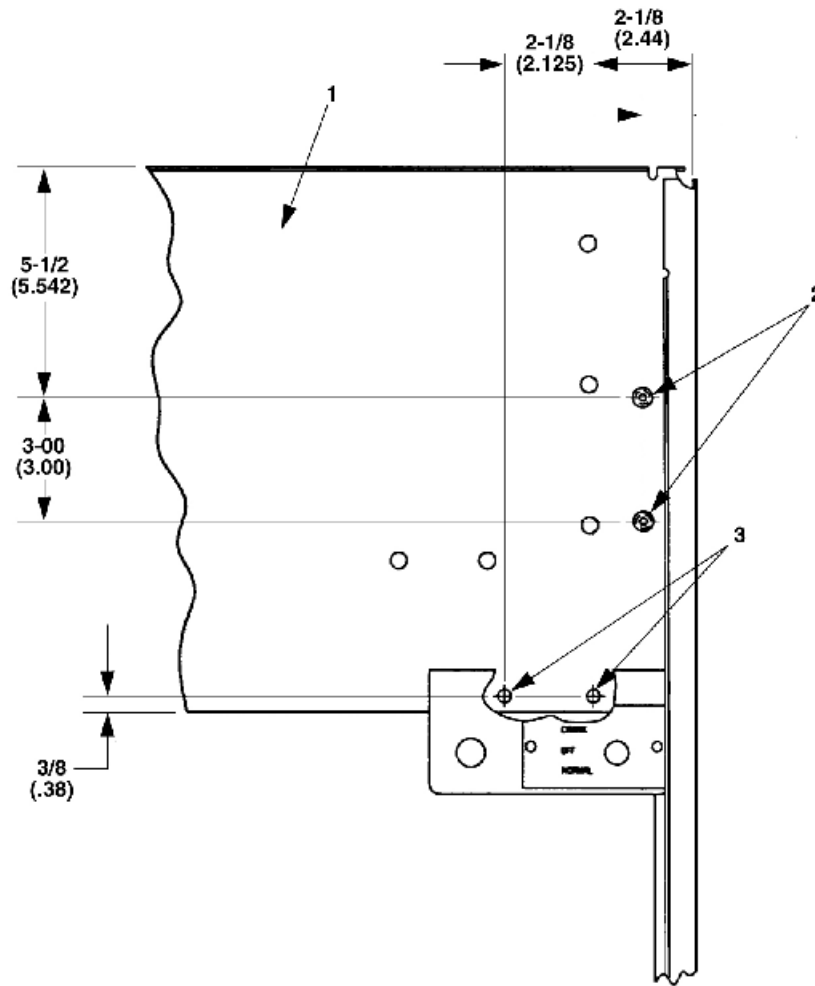
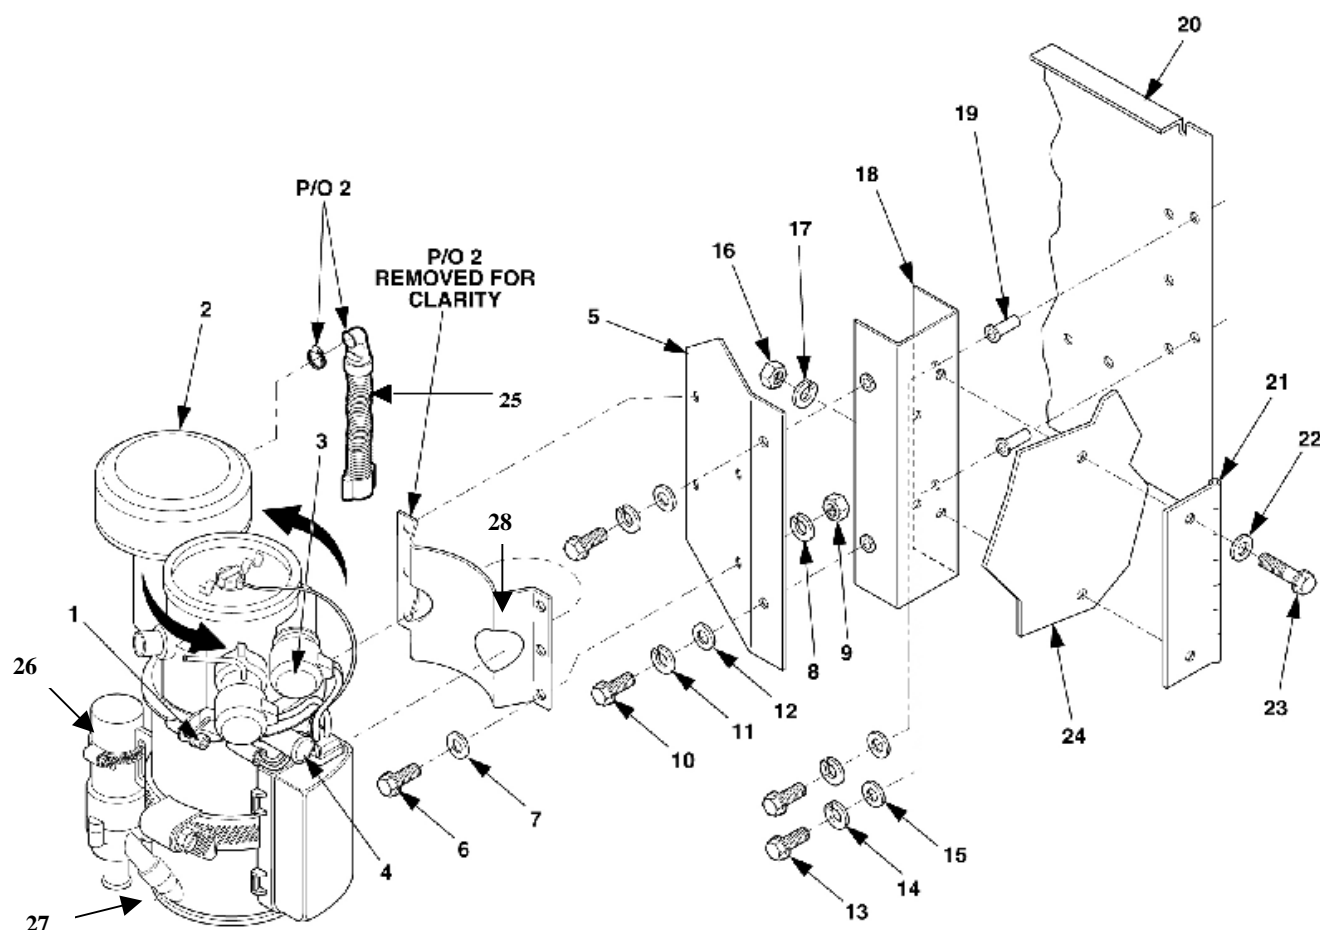

Figure 5-3. Bulkhead Housing.
Figure 5-4. Heater Assembly.
11. Remove dead crank switch bracket (4), Figure 5-3, from center bulkhead housing. Retain hardware for reinstallation in accordance with TM 9-6115-642-24. Retain hardware for reinstallation.
12. Drill four $\frac{9}{32}$ inch diameter holes (2 and 3) in center bulkhead housing (1).
13. Install dead crank switch bracket (4, removed in procedure 11) in holes (3) with screws, flat washers, and lock washers.
14. Loosen the heater head retaining screw (1), Figure 5-4, part of (2), and rotate the glow plug assembly (3), until the right glow plug is above the coolant outlet (4), and tighten.
15. Loosen the heater holding clamp bracket (28), part of (2), and rotate the "black" heater shell bracket approximately 1 ½ inch space from the heater water pump. Do not retighten the clamp.
16. Install the heater (2), on the heater mounting plate, (5), using screws (6), flat washers (7), lock washers (8), and nuts (9).
17. Attach the heater air inlet flexible hose (25) to the heater water pump (26) using existing cable tie provided with heater, (2). Ensure the inlet hose (27) does not interfere with the heater mounting bracket.
18. Remove the hinges (21) and associated hardware from the generator set.
19. Install blind rivet nuts (19) in holes on bulkhead housing (20). See holes (2) in Figure 5-3.
21. Install the wall mounting plate bracket (18), Figure 5-4, on the inside of the center bulkhead housing using screws (13), flat washers (14), and lock washers (15) into rivet nuts (19).
23. Install the top hinge (21), on the outside of the center bulkhead housing (24), using screws (23), flat washers (22), lock washers (17), and nuts (16), removed in procedure 18.
24. Install the heater/mounting plate assembly (5) to the wall mounting bracket (18), using screws (10), flat washers (11), and lock washers (12).